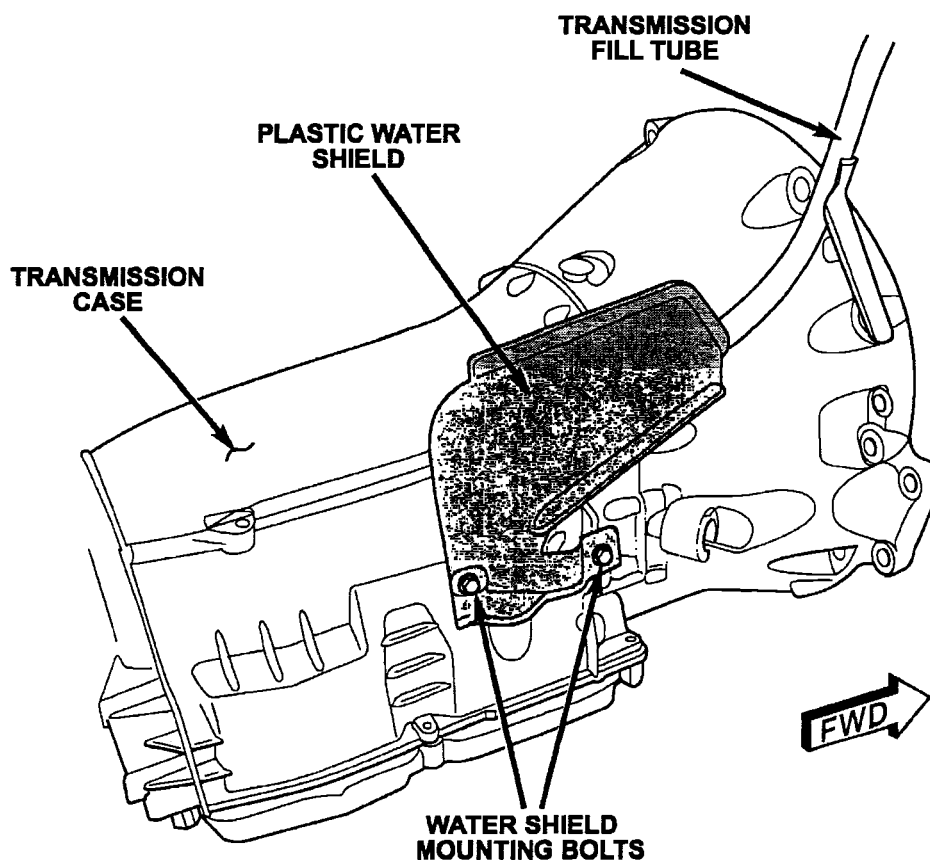

Figure 22
- Place the water shield into position (Figure 22).
- Reinstall the original lower fill tube fastener. Install the new bolt supplied in the repair package into the wiring harness bracket hole (Figure 22). Tighten both bolts to 105 in. lbs (12 N·m).